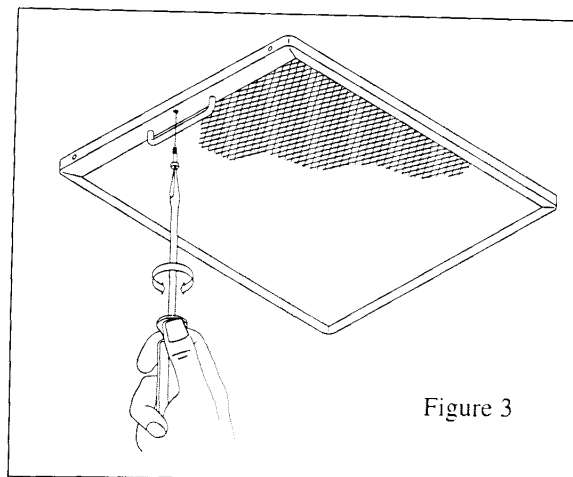
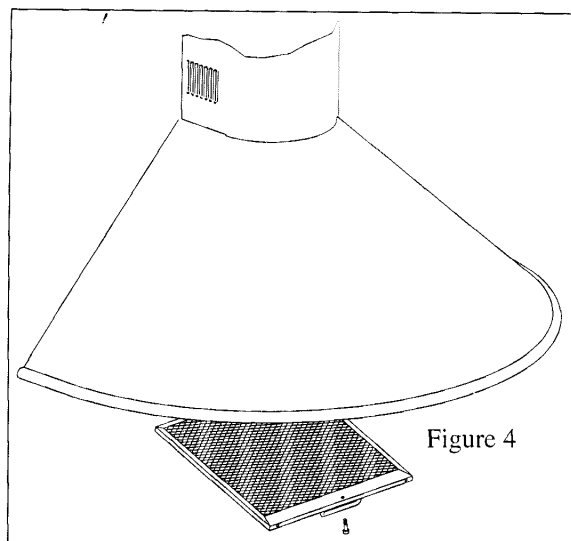

Figure 3
Figure 4
- b) **Changing the grease filter.** Before changing the light make sure that the hood is disconnected. Remove the grease filter (Fig. 3) and (fig. 4) and replace the light with a candelabra light bulb of no more than 40W. Replace the filter in position.
- c) **Cleaning the grease filter:** Depending on use, and at least once a month, the grease filters should be disassembled (Fig. 3) and (fig. 4) and cleaned in a dishwasher or with hot soapy water. If washed in a dishwasher they should be placed in an upright position to prevent food remains from falling on them. After rinsing and drying, replace the filters by following the steps for disassembly in reverse order.